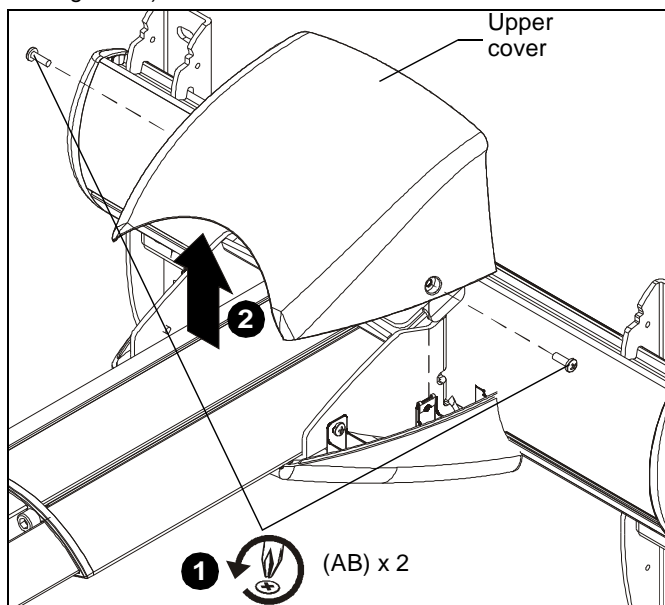

Figure 25
- Remove and save two 8-32 x 3/8" Phillips pan head screws (AB) from upper cover. (See Figure 25)
- Raise and remove the upper cover from the mount. (See Figure 25)